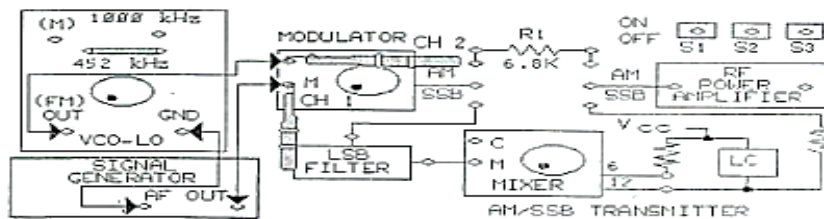

Figure 4-6.
1. Locate the AM/SSB TRANSMITTER and VCO-LO circuit blocks on the ANALOG COMMUNICATIONS circuit board, and connect the circuit shown (Figure 4-6). Be sure to place a two-post connector in the 452 kHz position on the VCO-LO circuit block. VCO-LO connects to the MODULATOR'S carrier signal input (C), and the SIGNAL GENERATOR connects to the MODULATOR'S message signal input (M).